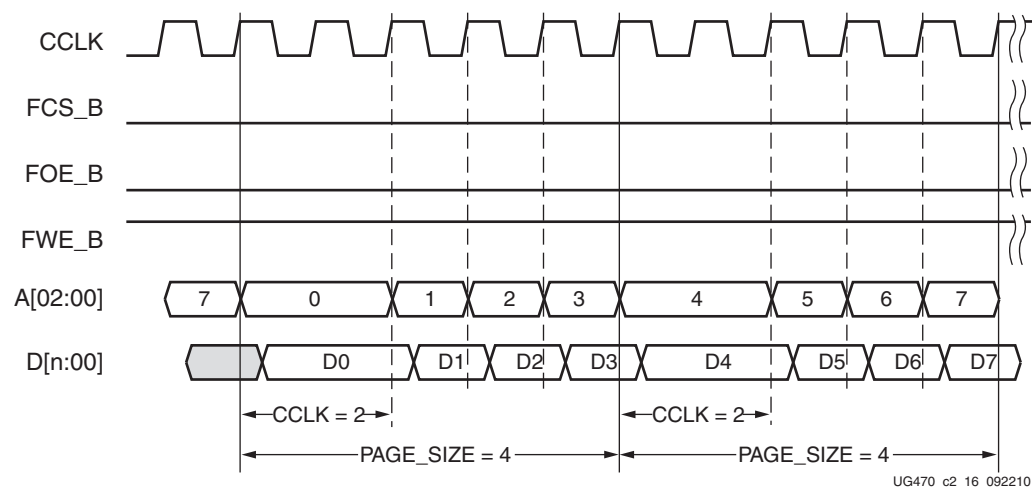

Figure 2-16: BPI Waveforms (Page Size = 4 and First Access CCLK = 2)
The sequence of page-mode operation is controlled by the 7 series FPGA bitstream. After an FPGA reset, the default page size is 1, the first access CCLK is 1, and the master CCLK is running at slowest default frequency. The COR0 register contains master CCLK frequency control bits (see Configuration Options Register 0 \(01001\), page 102). The COR1 register contains BPI flash page mode control bits (see Configuration Options Register 1 \(01110\), page 105). After the COR1 register is programmed, the BPI address timing switches at the page boundary as shown in Figure 2-16. When the SWITCH command is received, the master CCLK switches to a user-desired frequency, using it to load the rest of the configuration. Refer to the BitGen section of the *Command Line Tools User Guide* for details on BitGen options.
Notes related to Figure 2-16:
1. Figure 2-16 shows BPI mode, a page size of 4, and a first access CCLK of 2.